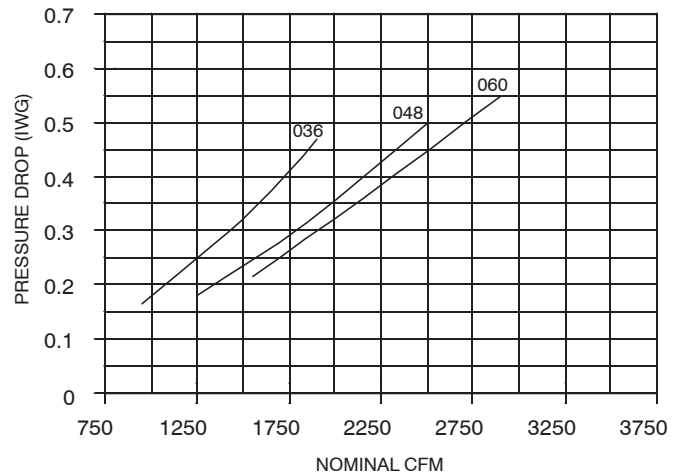

FIG. 8 - PRESSURE DROP ACROSS A DRY EVAPORATOR COIL VS SUPPLY AIR CFM, WITHOUT AIR FILTERS
- Knowing the pressure drop across a dry coil, the actual CFM through the unit can be determined from the curve in Figure 8.